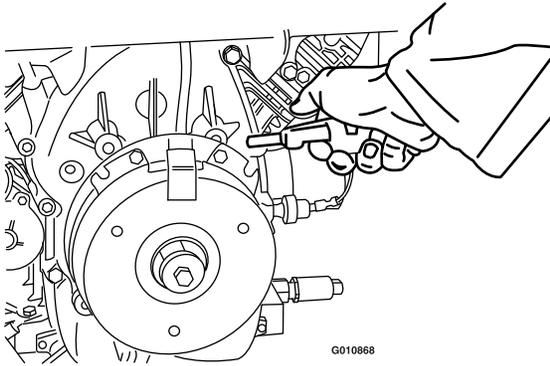

Figure 81
3. Using an air compressor, blow out any debris from under the brake pole and around the brake spacers (Figure 81).